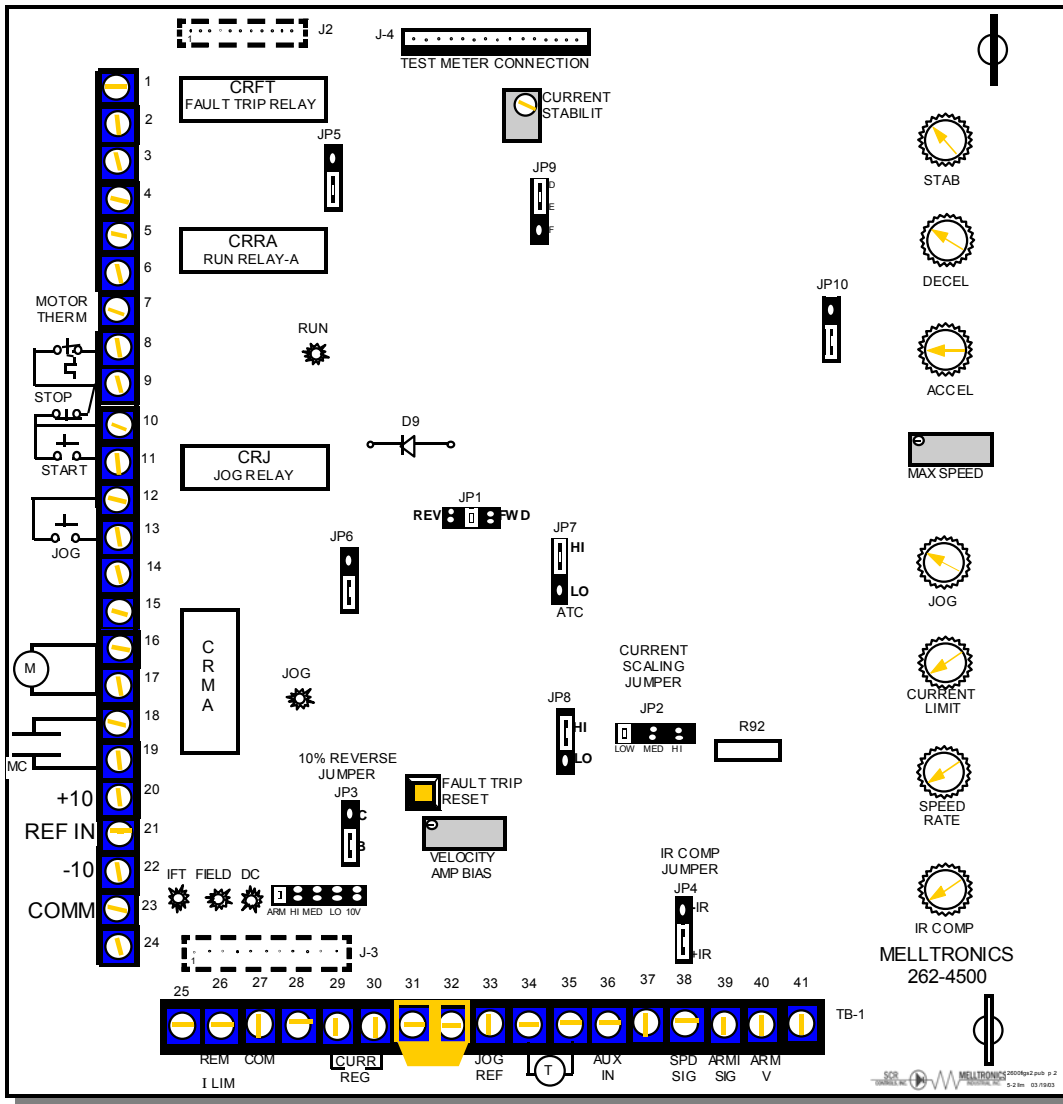

Figure 26: Upper Control Board Operating Features
There are nine (9) adjustment potentiometers located on the main control board. Refer to Figure 26.
**NOTE: EXERCISE CAUTION WHEN MAKING ADJUSTMENTS. WITH THE CONTROL DRIVING A MOTOR, DO NOT EXCEED TEN (10) DEGREES OF POT ROTATION PER SECOND.**
Refer to Figure 26.